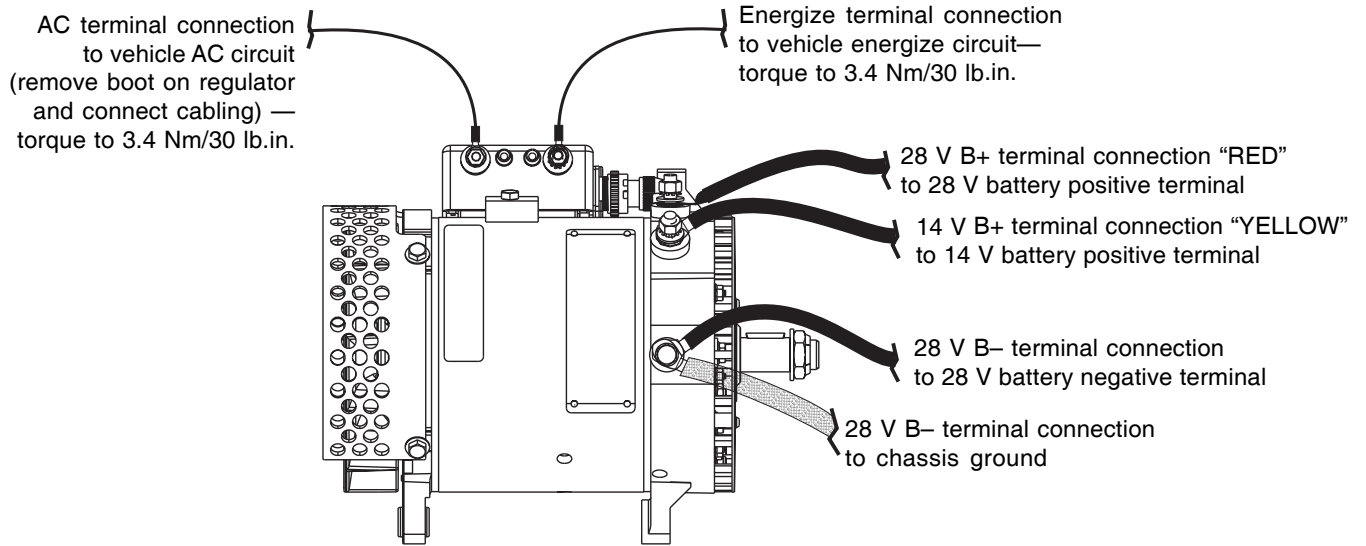

Figure 1a – N1509-1 and N1509-2 Wiring Connections
2. Connect wiring as shown in Figures 1a, 1b, and 1c.